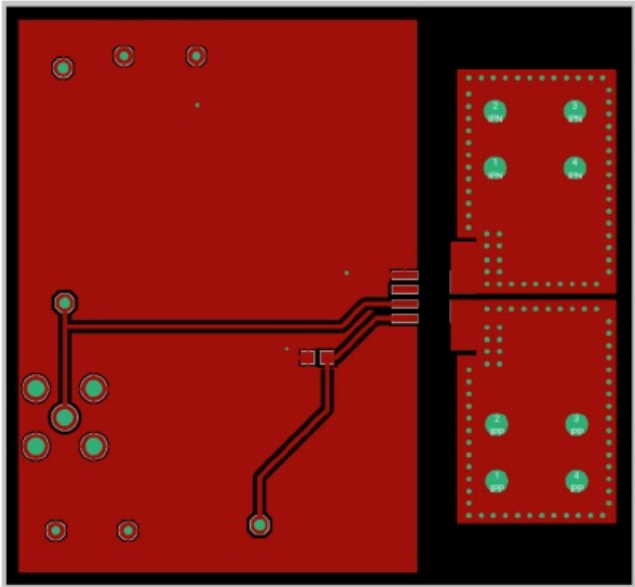
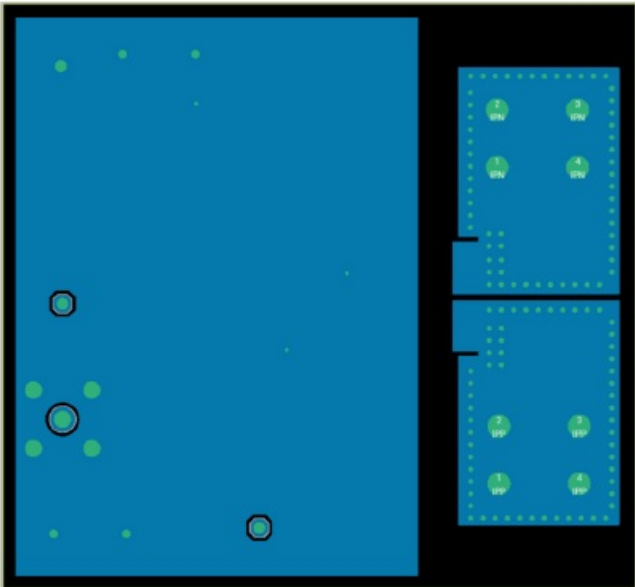

Figure 4: Top Layer
Figure 5: Bottom Layer
- The top and bottom layers of the CT4022 evaluation board are shown in Figure 4 and Figure 5, respectively.